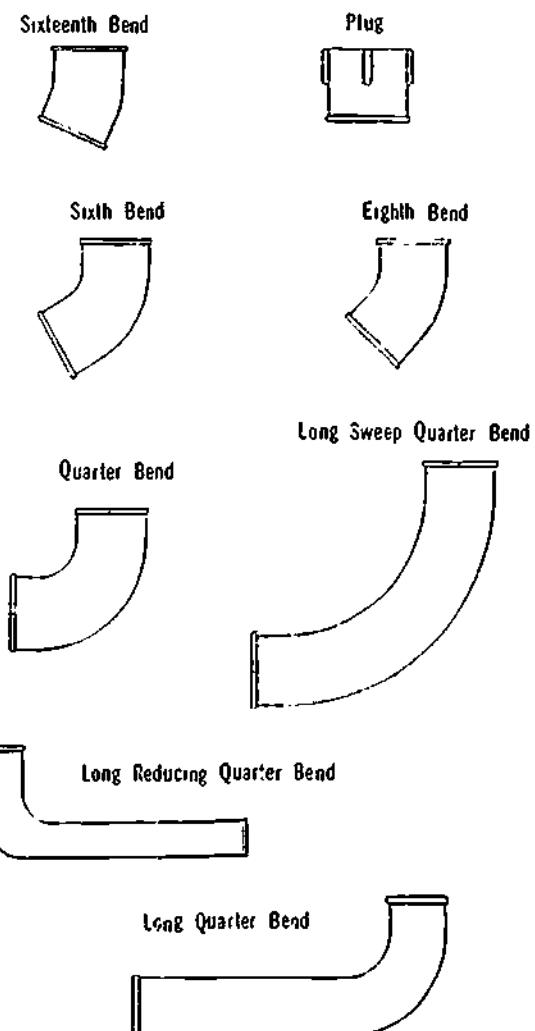

Figure 4-1. Various Pipe Fittings
4. A few of the different fittings made for this type of pipe are shown in Figures 4-1 and 4-2.